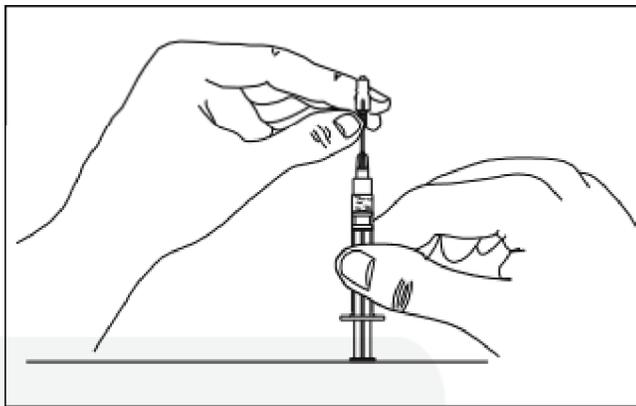

Figure 6: Place the connector on syringe tip to inject epoxy through the ferrule hole.
9. Holding the syringe vertically on the bench top, place the connector onto the dispensing tip to a positive stop as shown in Figure 6. Apply downward pressure on the connector and syringe until a tiny spot of epoxy appears on the face of the ferrule. Relieve pressure immediately by pulling back on the plunger and then back out the syringe.